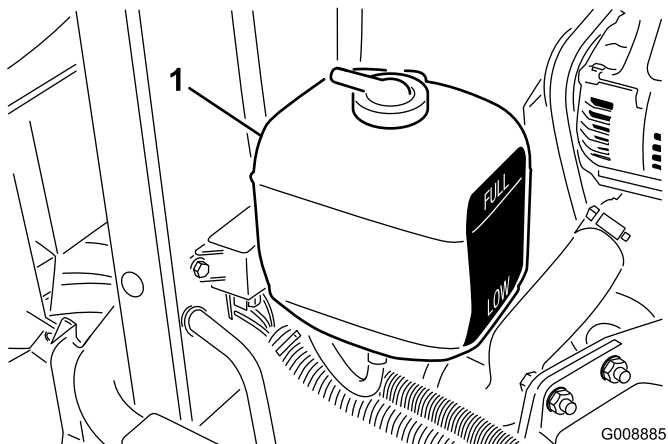

Figure 39
1. Check the coolant level in the expansion tank (Figure 39).